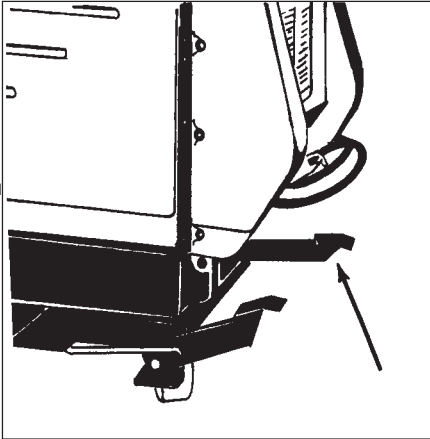
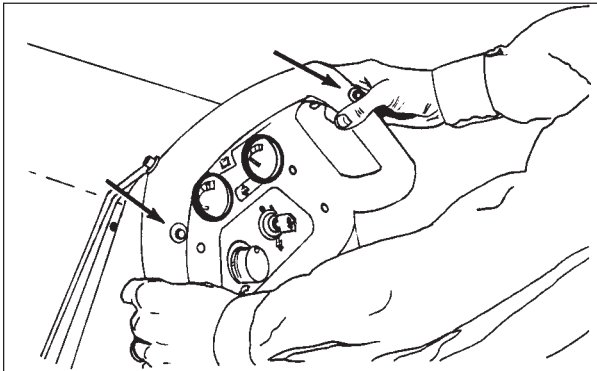

Figure 1
Figure 2
1. Make sure the loading ramp is at least eight (8) feet long, and strong enough to support the machine.
4. Push down on head lift pedal to raise head to pad changing position. See figure 1.
6. Align the machine on a level surface five (5) feet in front of the ramp.
8. Push in one of the forward/reverse switches. See figure 2.
4. Poussez sur la pédale de relevage de la tête afin de relever la tête dans la position de changement du disque. Voir figure 1.
8. Pressez l'un des deux interrupteurs marche avant/arrière. Voir figure 2.